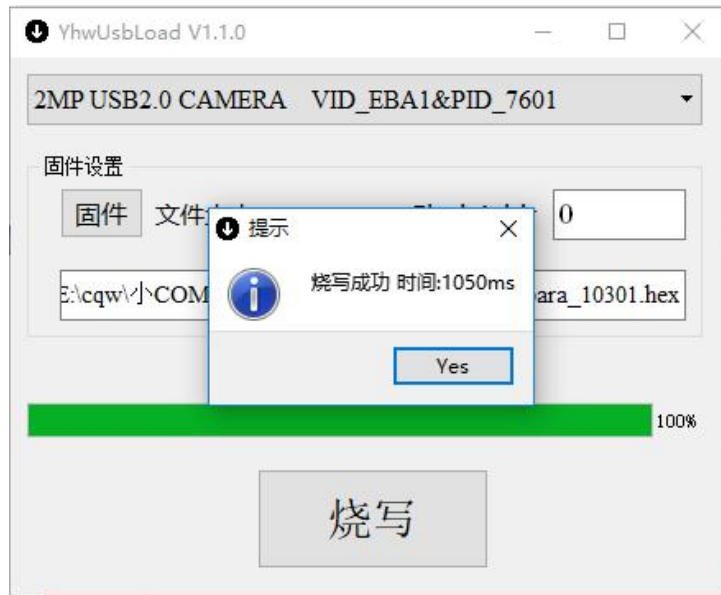

图 4-11 Programming complete.
- 5) Click [烧写], prompted to burn successfully, complete the firmware burning. As shown in Figure 4-11